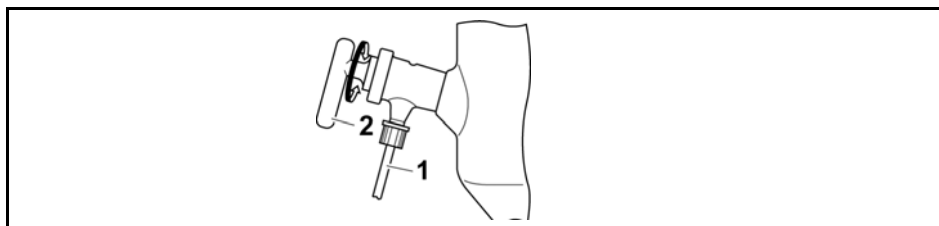

Figure 4-26: Inlet tube
The system can be ventilated with the valve stopcock (Figure 4-26 (2)) of the inlet pipe.
- ➔ Slowly turn the stopcock (Figure 4-26 (2)) of the inlet tube upward.